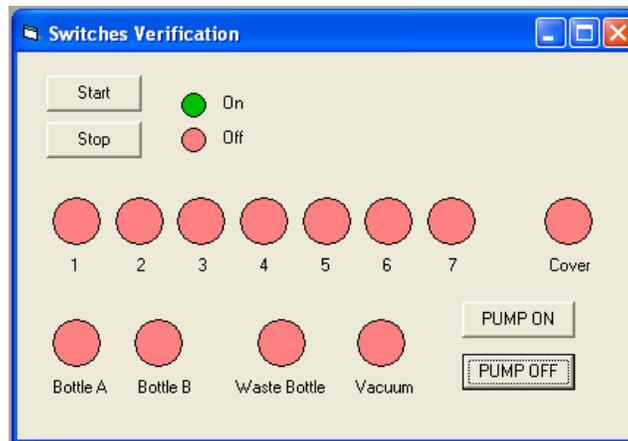

Figure 5-66: Switches Verification
2. Select **Switches** on the *Pretest* menu and press the **Start** button. The display window should present all buttons in pink (off) (Figure 5-66).